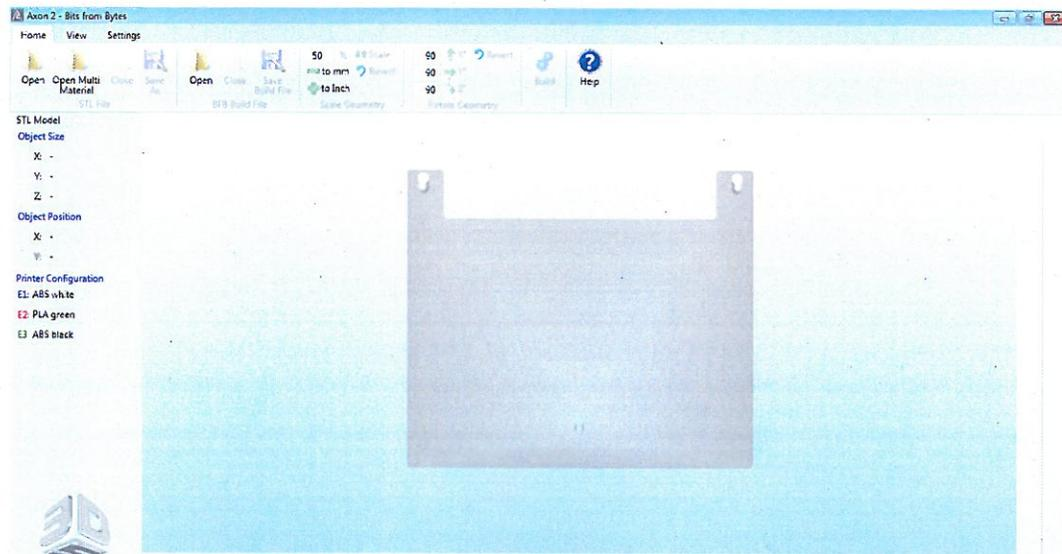

Figure 5: Initial Screen
5. The initial start-up screen will load (Figure 5).